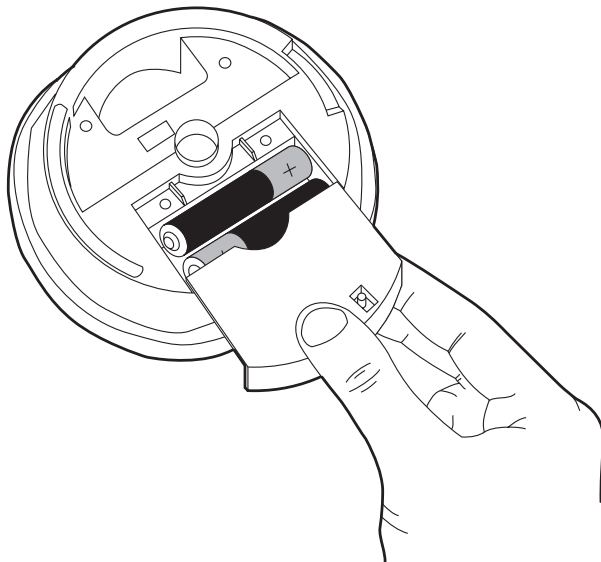

Figure 1
- The first step is to insert the 2x AAA batteries provided (see Figure 1), then fix the mounting base in the desired location as per the installation guide for Carbon Monoxide Alarms.